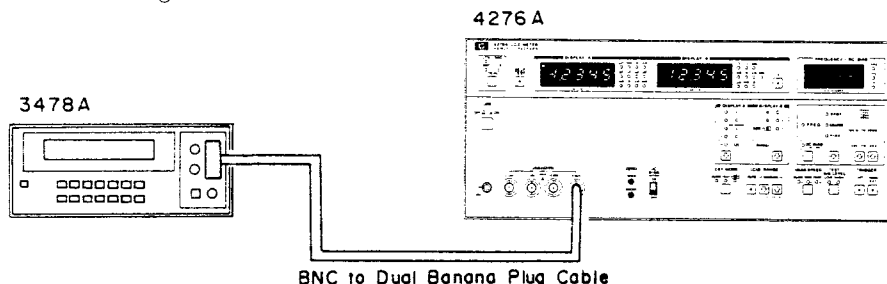

Figure 5-3. A2 Test Signal Level Adjustment Setup.
1. Connect the 3478A to the 4276A HCUR terminal with a BNC-to dual banana plug cable, as shown in Figure 5-3.